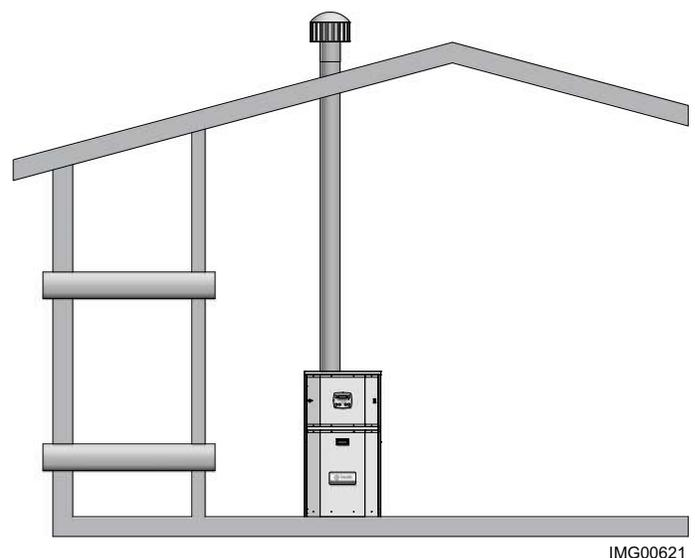

Figure 1-3_ Combustion Air Through Ducts
2. If combustion and ventilation air is taken from the outdoors using a duct to deliver the air to the equipment room, each of the two openings should be sized based on a minimum free area of one square inch per 2000 Btu/hr (11 cm² per kW) of input (see FIG. 1-3).